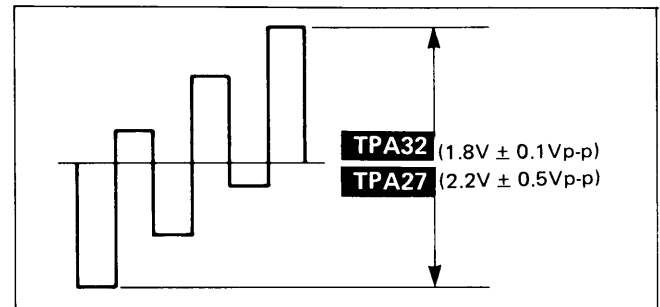

Fig. 36
- 3) Connect an oscilloscope between TPA32 and chassis earth. Adjust Sub color VR (R4237) to achieve  $1.8V \pm 0.1V_{p-p}$  on the oscilloscope as shown in Fig. 36.